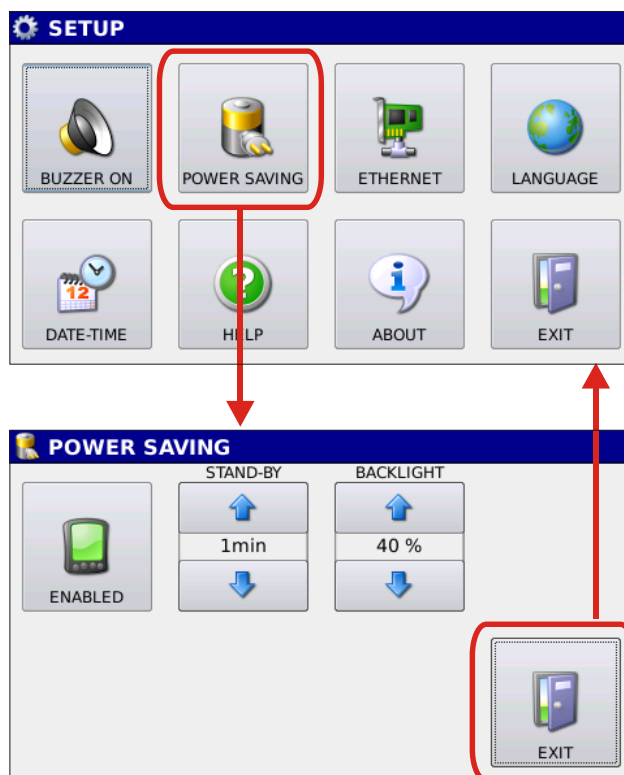

Fig. 6.3: power Saving Management Window
6.2 POWER SAVING: Power saving configuration. Press the POWER SAVING button to access the window for the management of the brightness level of the screen and the Stand-by time (Fig. 6.3).